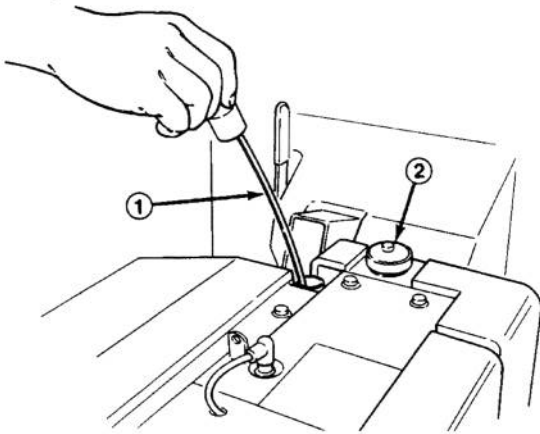

Figure 1
2. Remove the dipstick and wipe it with a clean rag. Push the dipstick down into the dipstick tube and make sure it is seated fully. Pull the dipstick out and check the level of oil (Fig. 1). If the oil level is low, add enough oil to raise the level to the FULL mark on dipstick.